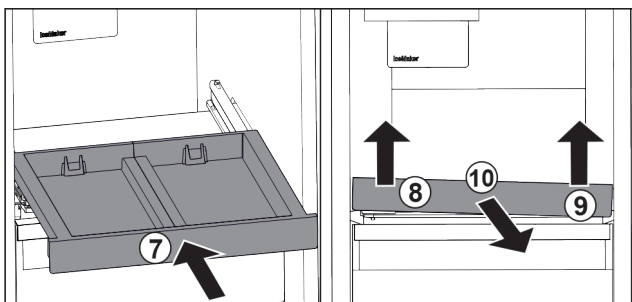

Fig. 34
- ▶ Slide in the pull-out board. Fig. 34 (7)
- ▶ Lift the pull-out board on the front left. Fig. 34 (8)
- ▶ Lift the pull-out board on the front right. Fig. 34 (9)
- ▶ Take out the pull-out board to the front. Fig. 34 (10)